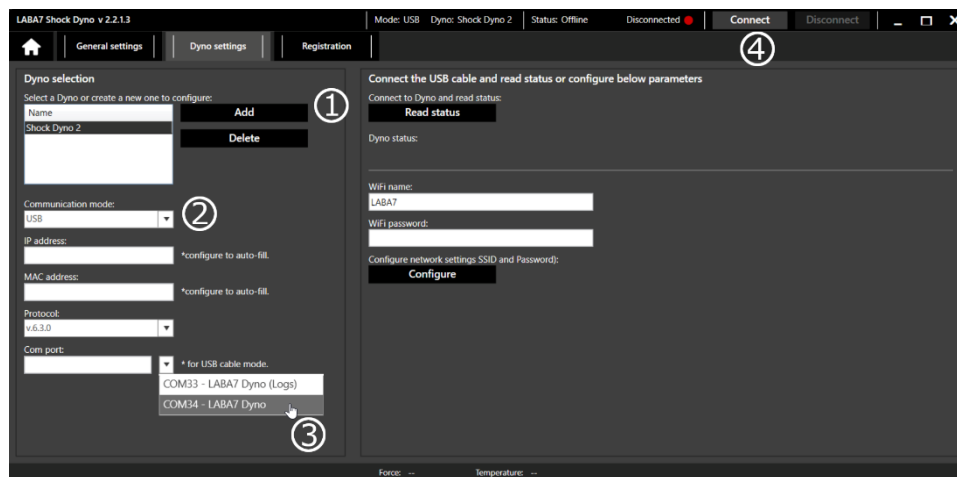

Figure 18
5. Add a new Dyno model by clicking Add button (Figure 18 – Step 1).
7. Select Communication Mode by clicking on the drop-down menu (Figure 18 – Step 2):
10. From 2 newly appeared com-ports select **COM6 - LABA7 Dyno** (Figure 18 – Step 3).
11. Press Connect (Figure 18 – Step 4).